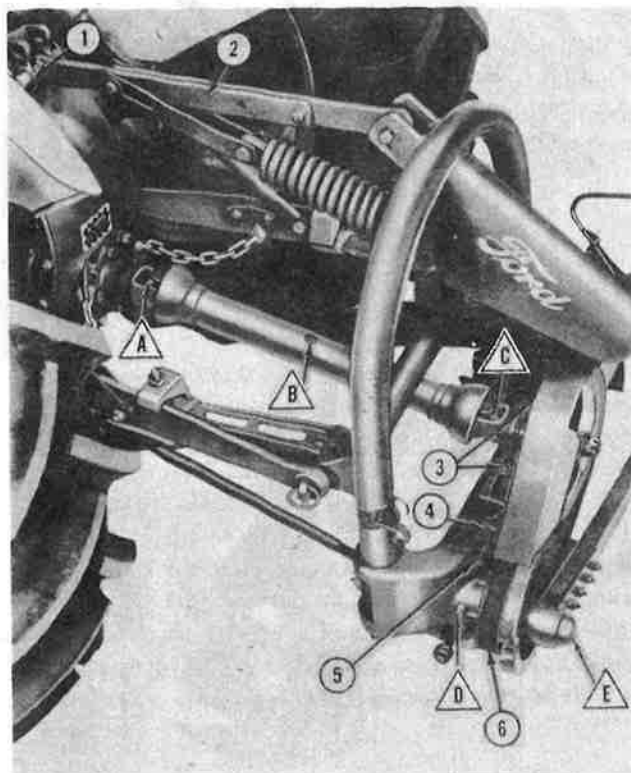

Figure 12
Drive Belt Tension: To adjust the tension on the V-belt (6), Figure 12, loosen the nuts (3) and turn the adjusting bolt (4) against the bearing housing until there is approximately 1/4" free play in the belt, midway between the drive sheave and the driven flywheel. Secure the adjusting bolt (4), Figure 12, with the lock nut (5) and tighten the nuts (3).